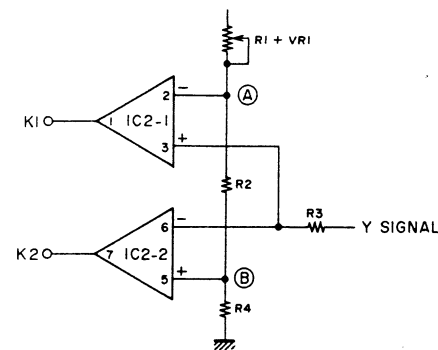

Fig. 11
Fig. 11 shows the comparator circuit used to operate the AGC circuit. If the Y signal level (input to the window comparator) is higher than voltage EA at point (A), IC2-1 output goes to "H" level. On the other hand, if the Y signal level is lower than voltage EB at point (B), then IC2-2 output goes to "H" level. Thus, output goes to "L" if the input signal EY is: EB < EY < EA. The AGC circuit is controlled in such a manner that the output goes to "L".